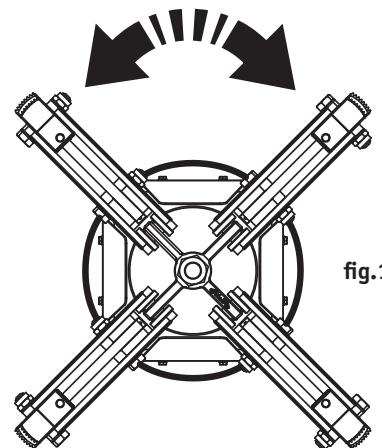

fig.1
**AUTOCENTRANTE UNIVERSALE (fig.1)**
**FOUR-JAW UNIVERSAL CHUCK (fig. 1)**
**AUTOCENTREUR UNIVERSEL (fig.1)**
**UNIVERSALSELBZENTRER (Abb. 1)**
**AUTOCENTRADO UNIVERSAL (fig.1)**